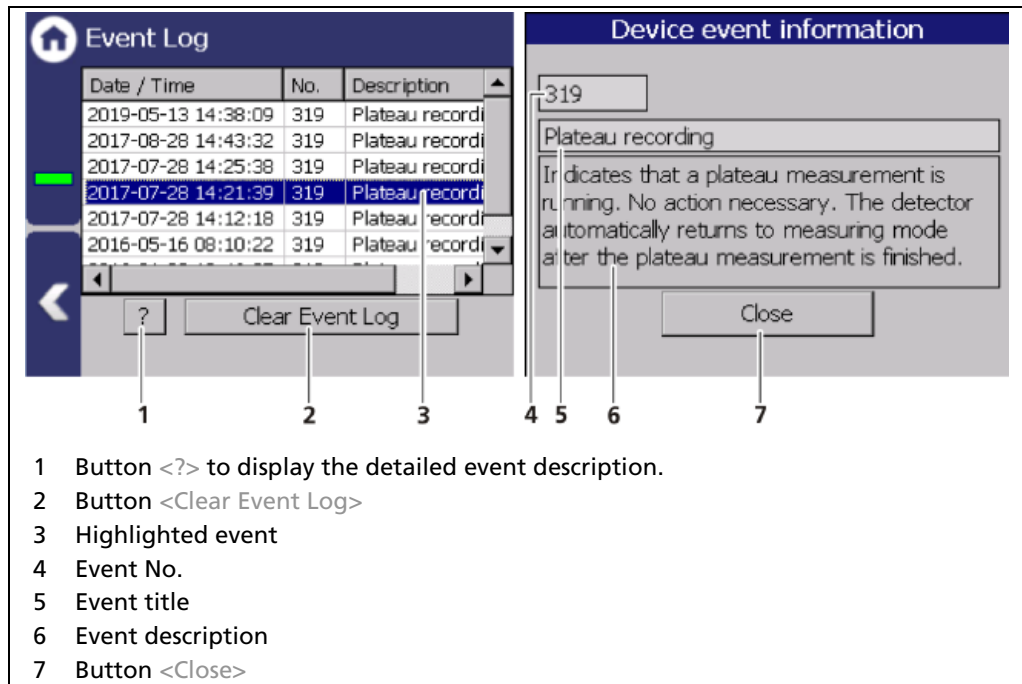

Fig. 59 Event Log
1. Click on a line in the list (Fig. 59, item 3).
2. Click on <? > (Fig. 59, item 1)
3. With the button <Close>, close the event description (Fig. 59, item 7).
- ▶ With the button <Clear Event Log> (Fig. 59, item 2), delete all events permanently.